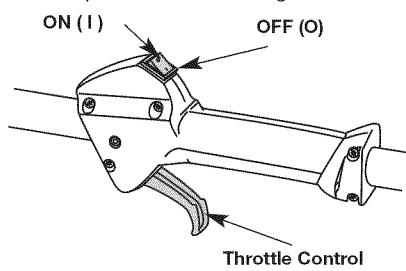

Fig. 9
- NOTE:** There is no need to turn the unit on. The On/Off Control is in the ON (I) position at all times (Fig. 9).
2. Press and hold the On/Off Control in the OFF (O) position until the unit comes to a complete stop. (Fig. 9)